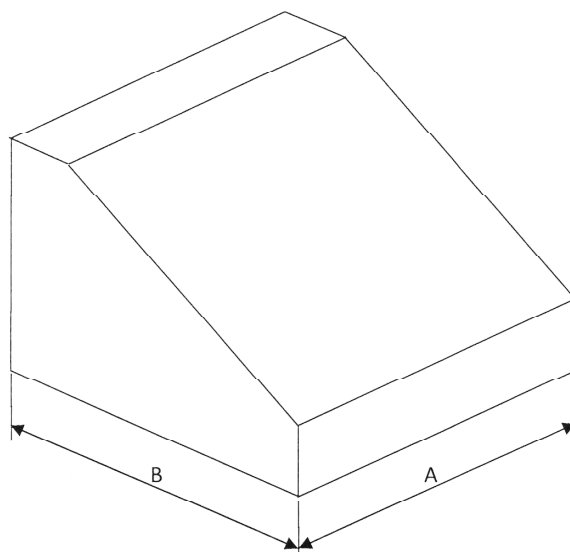

Figure 1
7. Figure 1 is drawn to scale of 1:10. (4 marks)